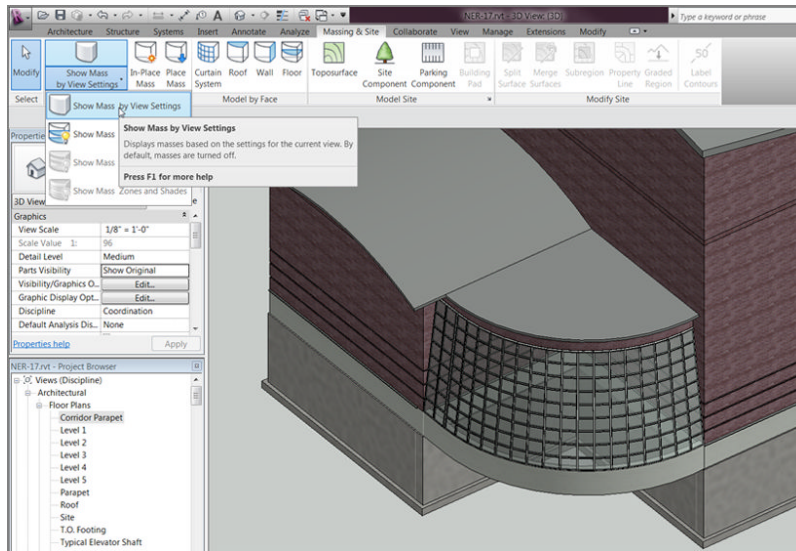

FIGURE 16.54: The new funky atrium
14. Click Show Mass By View Settings. Your new atrium should look like Figure 16.54.